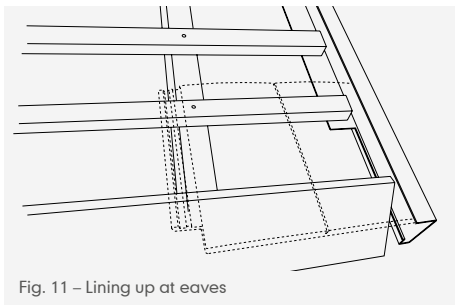

Fig. 11 – Lining up at eaves
- 2 Square cut the ends of the verge extrusion to the desired length. A connector unit is available to join lengths of extrusion. At the eaves, cut away a length of horizontal flange to accommodate the tilting fillet or support tray (Fig. 11).